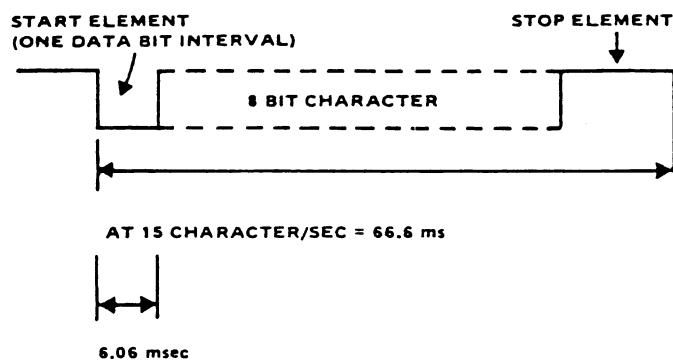

Figure 3.
that the variable stop length is what makes the baud rate differ from the bit rate. For synchronous transmission, each element is one bit in length so that the baud rate equals the bit rate. The same is true for asynchronous transmission if the stop element is always one bit in duration (this is referred to as *isochronous* transmission). However, when the stop code is longer than one bit, as shown in Figure 3, the baud rate differs from the bit rate.
- Each character in Figure 3 is 11 data bit intervals in length, and if 15 characters are transmitted per second, then the shortest signal element (one data bit interval) is $66.6 \text{ ms} / 11 = 6.06 \text{ ms}$; giving a rate of $1 / 6.06 \text{ ms} = 165 \text{ baud}$. However, since only 10 bits of information (8 data bits, one start bit and 1 stop bit) are transmitted every 66.6 msec, the bit rate is 150 bit/sec. (Even though the stop element lasts for two data intervals, it still is only one bit of information)